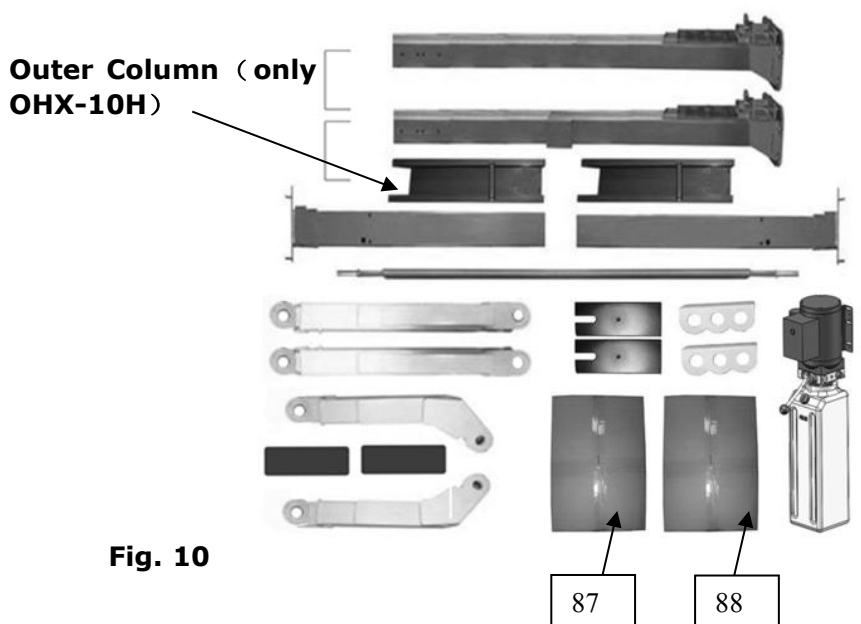

Fig. 10
4. Move aside the parts and check the parts according to the shipment parts list (See Fig.10, 11, 12).